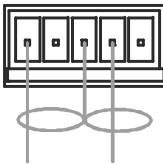

Figure 7: Unbalanced Stereo Audio Connection
- An unbalanced stereo output connection, see Figure 7